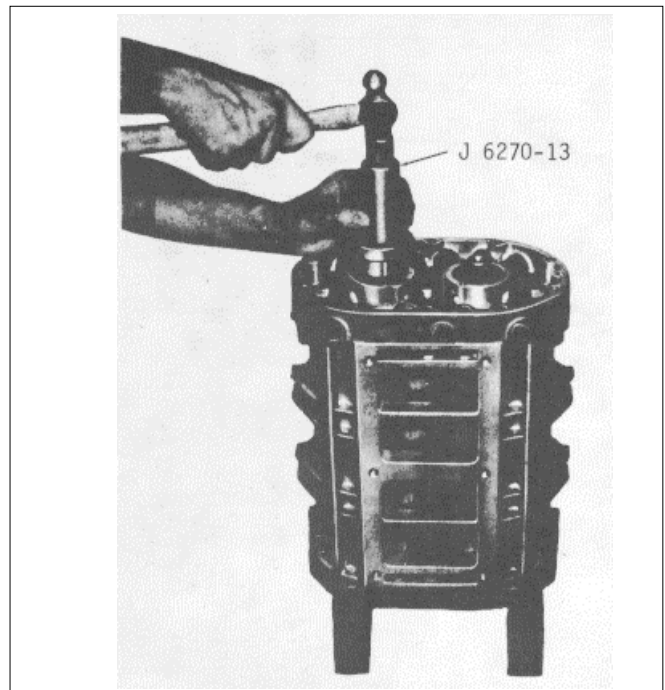
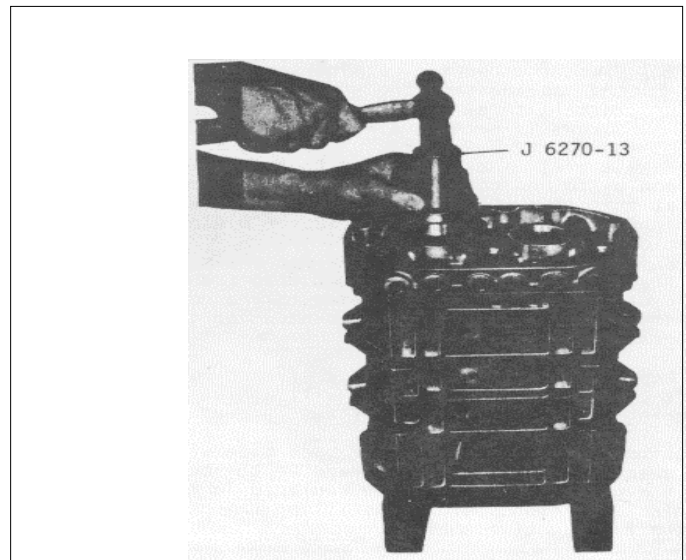

Fig. 14
Fig.15
- (b) Place installer J 6270-13 on top of the bearing and tap the bearing straight on the shaft and into the rear end plate as shown in Fig.14.
- (2) Install the roller bearing inner races on the rotor shafts at the front end plate as follows:
- (a) Reverse the position of the blower housing on the two wood blocks (Fig.15).
- (3) Install the roller bearing outer race assemblies in the front end plate as follows:
- (b) Place installer J 6270-13 on top of the bearing and tap the bearing straight on the inner race and into the front end plate as shown in Fig.15.